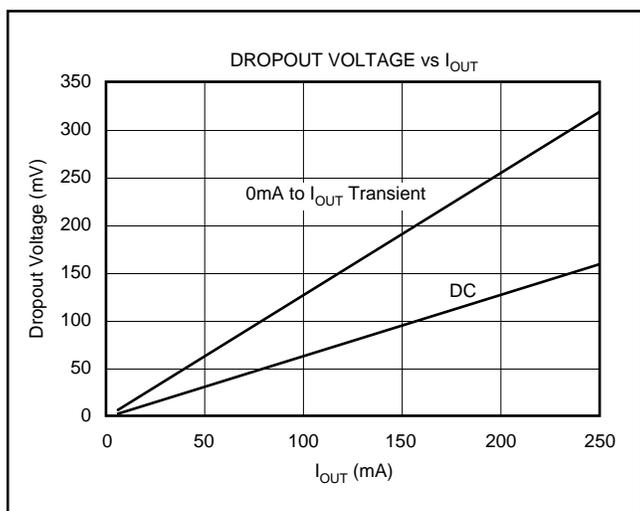

FIGURE 6. Transient and DC Dropout.
The REG102 uses an N-channel DMOS as the pass element. When $(V_{IN} - V_{OUT})$ is less than the drop-out voltage (V_{DROP}), the DMOS pass device behaves like a resistor; therefore, for low values of $(V_{IN} - V_{OUT})$, the regulator input-to-output resistance is the R_{dsON} of the DMOS pass element (typically $600m\Omega$). For static (DC) loads, the REG102 typically maintains regulation down to a $(V_{IN} - V_{OUT})$ voltage drop of $150mV$ at full rated output current. In Figure 6, the bottom line (DC dropout) shows the minimum V_{IN} to V_{OUT} voltage drop required to prevent dropout under DC load conditions.
For large step changes in load current, the REG102 requires a larger voltage drop across it to avoid degraded transient response. The boundary of this transient drop-out region is shown as the top line in Figure 6 and values of V_{IN} to V_{OUT} voltage drop above this line insure normal transient response.